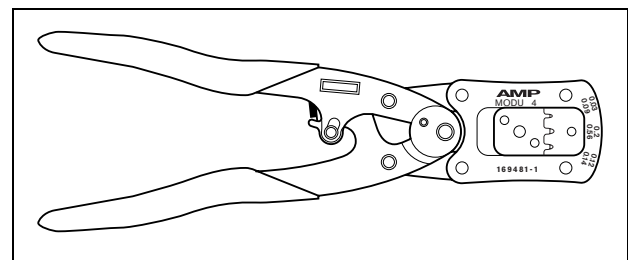

figure 21.15: Tyco AMP Modu 4 169481-1 pliers
- Tyco AMP Modu 4 169481-1 pliers (see figure 21.15)